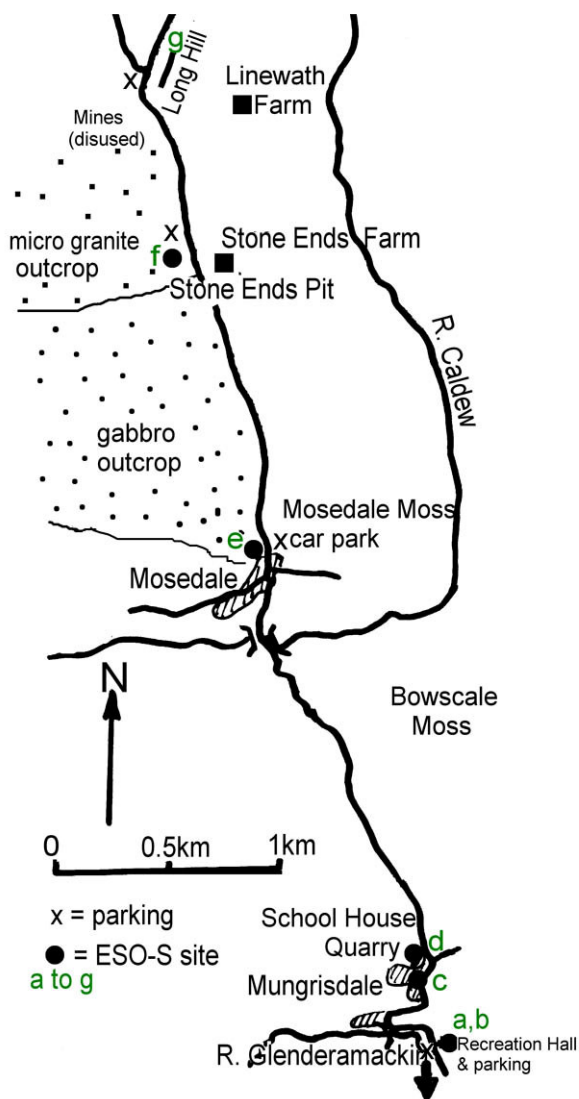

Figure 1. Map of sites in Mosedale Valley.
- *Map of sites in the Mosedale valley (Figure 1) plus OS maps.